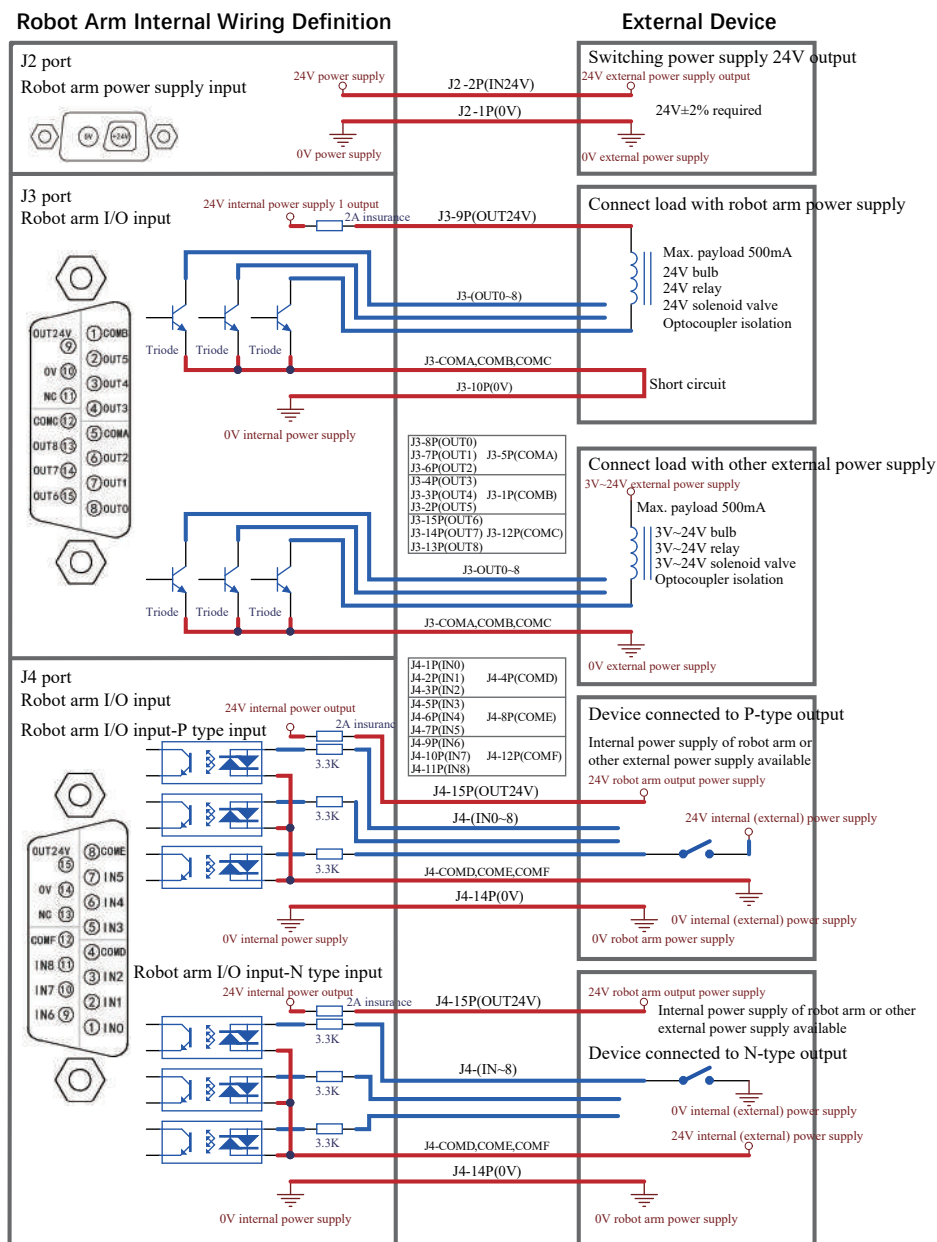

Figure 2
3. The internal circuit design of the J3 and J4 interfaces (as shown in Figure 2)